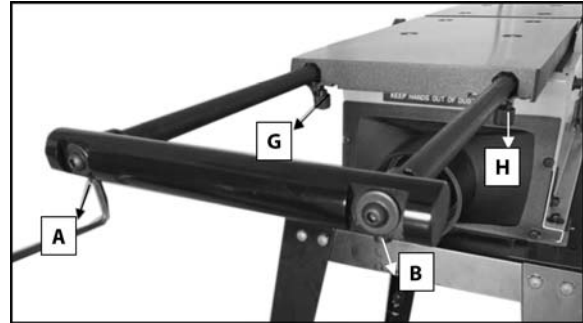

Figure 9
3. If the level modification is needed, release the lock nut (G,H) by hand and release only the screws (A,B) by the given wrench, then turn the leveling stud (C,D) by putting the wrench inside the hole (E,F). If the hole (E,F) at the top, the support will be at the maximum position, if at the bottom, the support would be at the lowest point. After finishing the above, tighten the screw (A,B), then check the parallelism. **See Figure 9 and 10 below.**